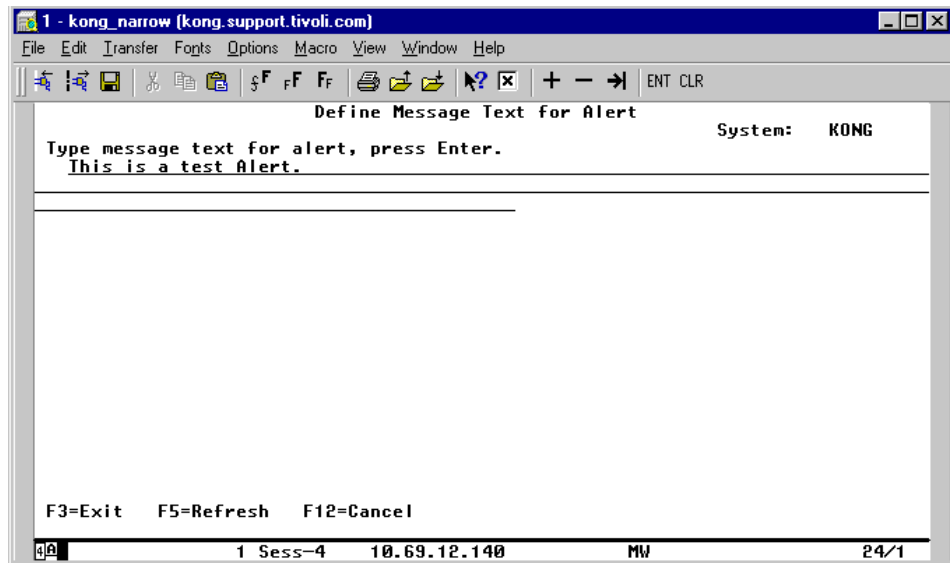

Figure 187. ANZPRB: Define Message Text for Alert
- h. Select option **2**, as illustrated, to bring up the Define Message Text for Alert panel shown in Figure 187 on page 338.